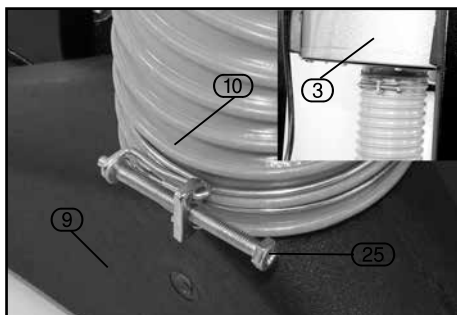

FIG. 8
8.7 COLLECTION HOSE & FLOOR ATTACHMENT – FIG. 8